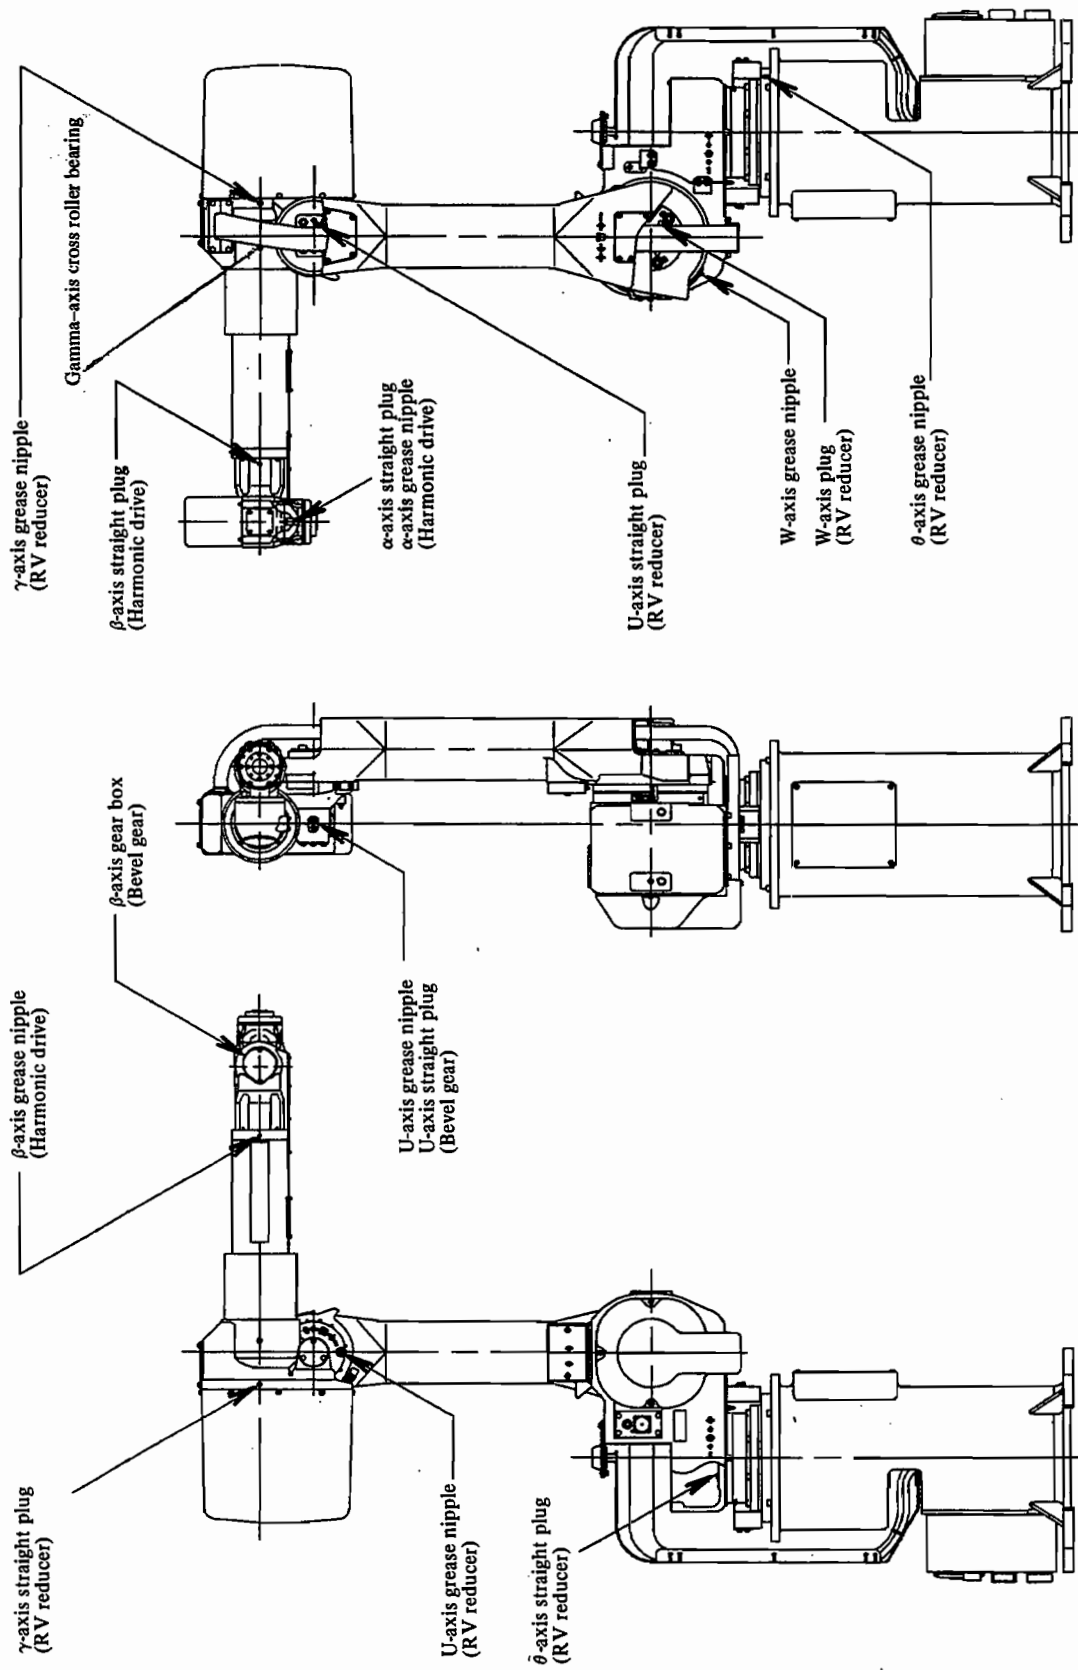

Fig. 2 Greasing Point
- ii) For the greasing points and the greasing procedure, see Fig. 2 and Table 2 (a).
- Remove the θ (W, U, γ) grease nipple and the θ (W, U) plug shown in Fig. 2 (b).